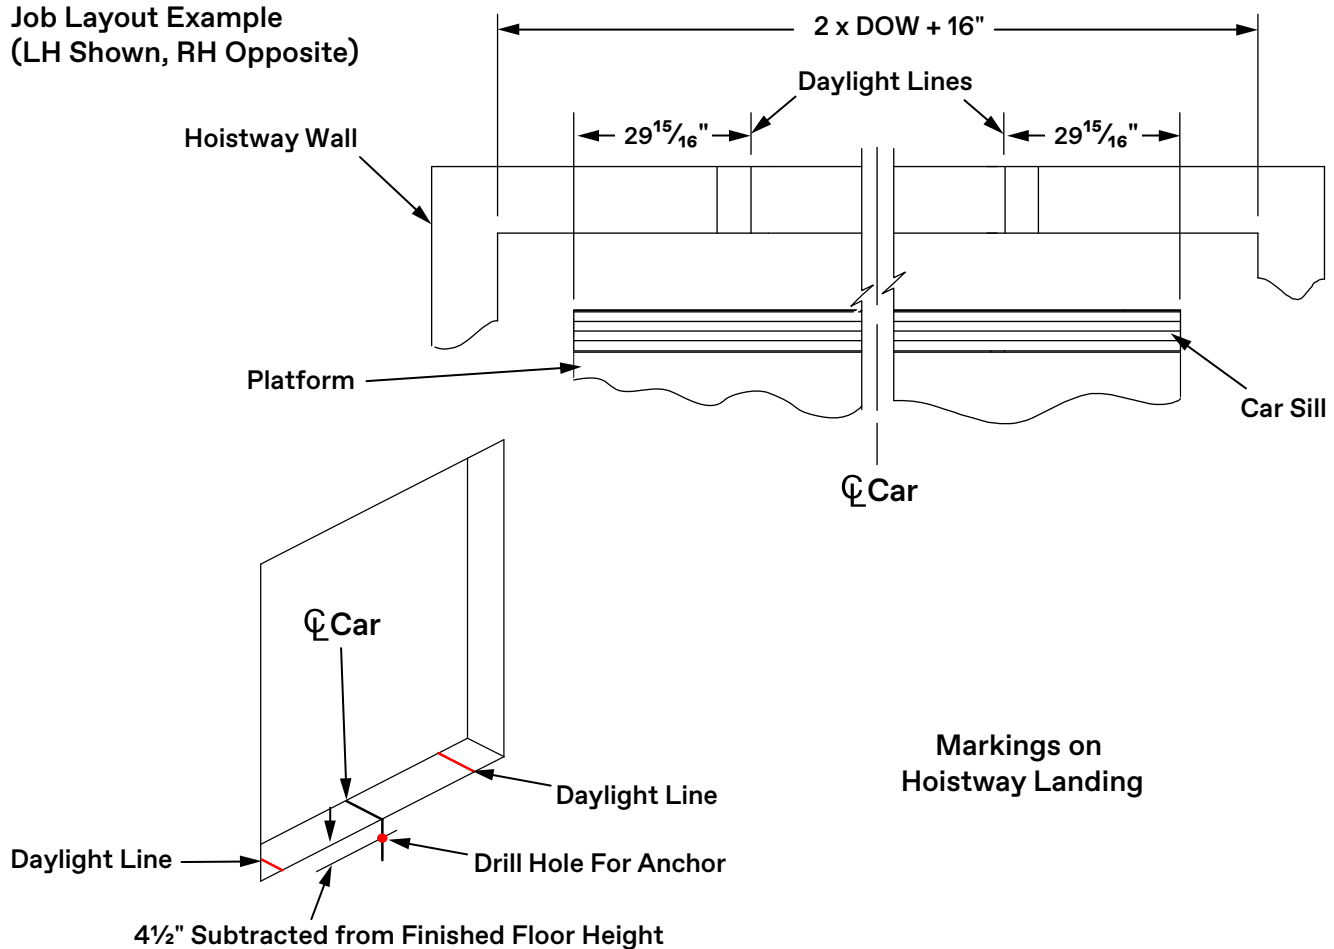

Figure 36 - Sill Installation (1 of 2)
4. Apply tape to car sill, and mark lines on tape. See Figure 36.
6. Subtract the finished floor height from $4\frac{1}{2}"$. Mark this distance on the landing wall lower than the plumb line drawn in the previous step, drill a hole for a $\frac{1}{2}"$ anchor, and install an anchor. See Figure 36.